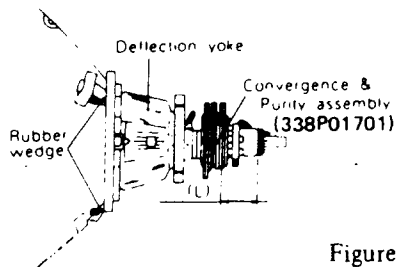

Figure 1
- (1) Remove the deflection yoke and the rubber wedges from the picture tube cone, taking care not to strike or scratch the cone surface.
- (2) Clean the remaining cement off the deflection yoke and the surface of the picture tube cone.
- (3) Put the deflection yoke on the neck of the picture tube, fully forward against the cone of the CRT.
- (4) Put the Convergence-Purity Assembly on the neck of the picture tube so that the distance between the 6-pole magnet and the base of the tube is 36 mm (1-7/16 inches), as shown in Figure 1, and hand-tighten the screw.
- (5) Demagnetize the front and sides of the picture tube with a degaussing coil.